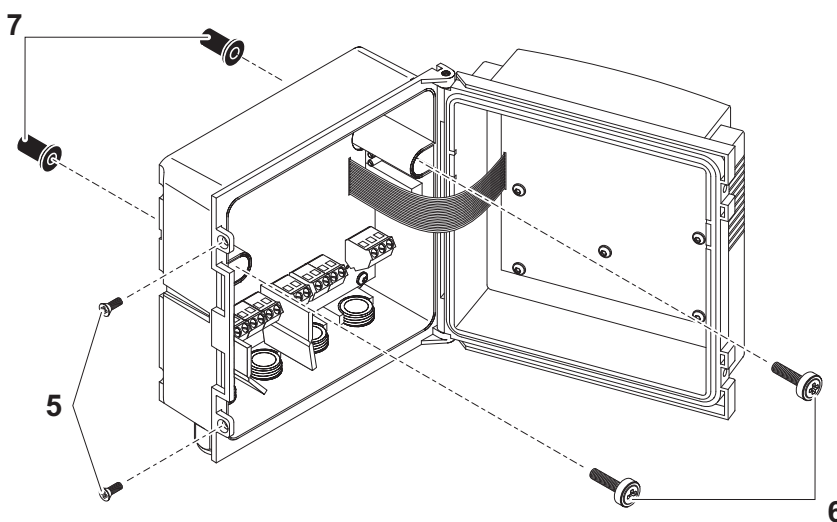

Fig. 3-4 Mounting the sun shield: Premounting the ISO blind nuts
- 2 | Remove the two countersunk screws (pos. 5 in Fig. 3-4) and swing open the lid.
- 3 Insert the cheese-head screws (pos. 6 in Fig. 3-4) with the plastic washers in the drilled mounting holes and loosely screw in the ISO blind nuts (pos. 7).
- 4 Position the universal transmitter on the sun shield and fix it into place with the two screws (pos. 6 in Fig. 3-4).
- 5 Close the lid and fix it with the two countersunk screws (pos. 5 in Fig. 3-4).